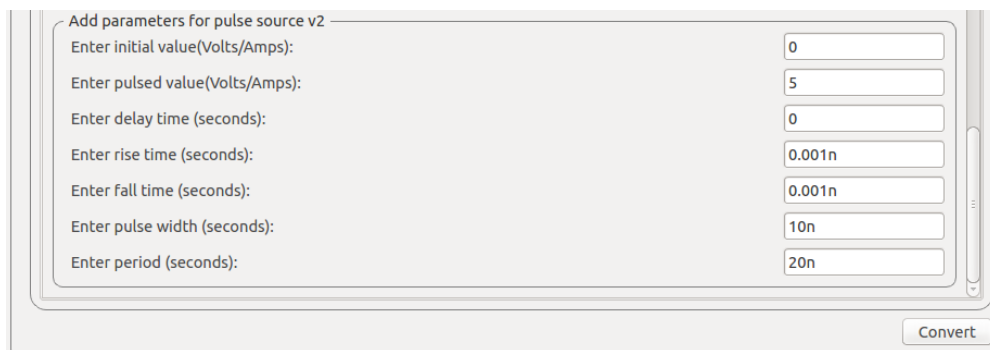

Figure 10.14: Value of Source v2
6. Now click on **Source Details** and enter the values for Source v1 and source v2 as shown in figure Fig. 10.13 and Fig. 10.14